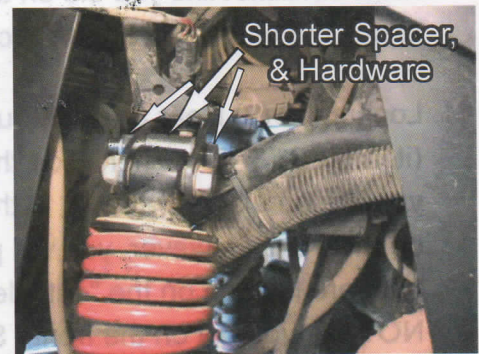

Fig.3
4. Once the plates are in position, you will install them to the frame using the 3/8-16 x 2.25" Lg Hex Head Bolt, 1-1/16" Lg Tube Spacer, 3/8" Flat Washers & 3/8" Nylock Nut provided in your kit (items "F", "H", "N" & "I"). See Fig.3. Do Not Tighten until the shock has been installed in between the new shock mount bracket plates.